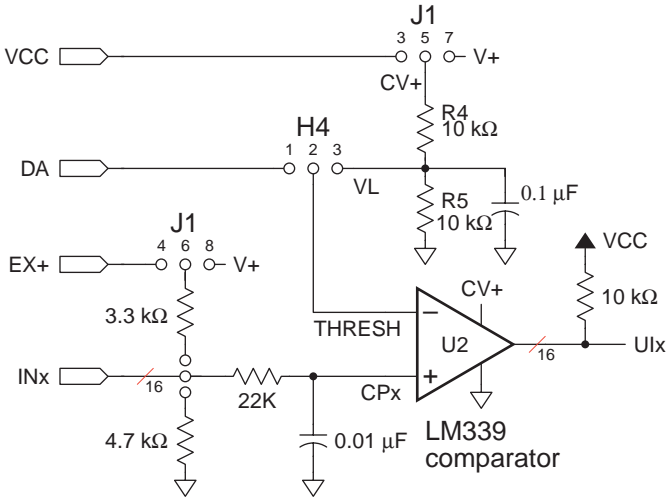

Figure 7-5. XP8200 Inputs
The XP8200’s 16 inputs (IN0–IN15 at the connector) are fed to the positive side of 16 comparators, as shown in Figure 7-5. An external analog voltage source (DA) or a fixed threshold VL drives the negative side of the comparators.